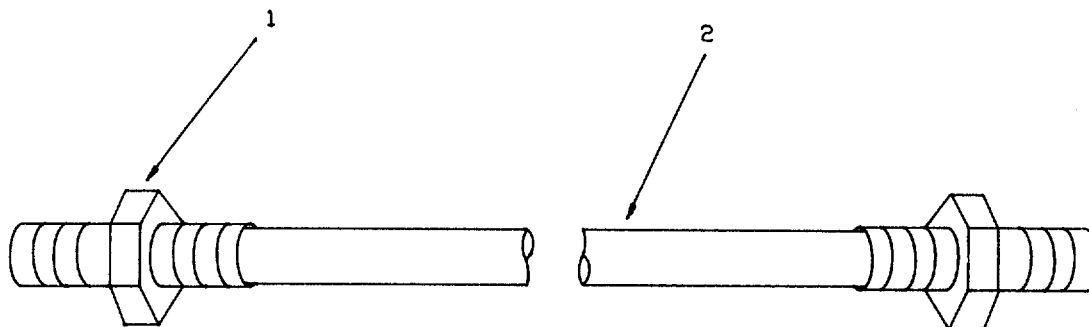

Figure 4-26. Lines and Fittings.
a. **Removal.** Remove tube nuts (1, Figure 4-26) and nonmetallic tube (2).
(1) Install tube nuts (1) to nonmetallic tube (2).
(2) Install nonmetallic tube to applicable part.